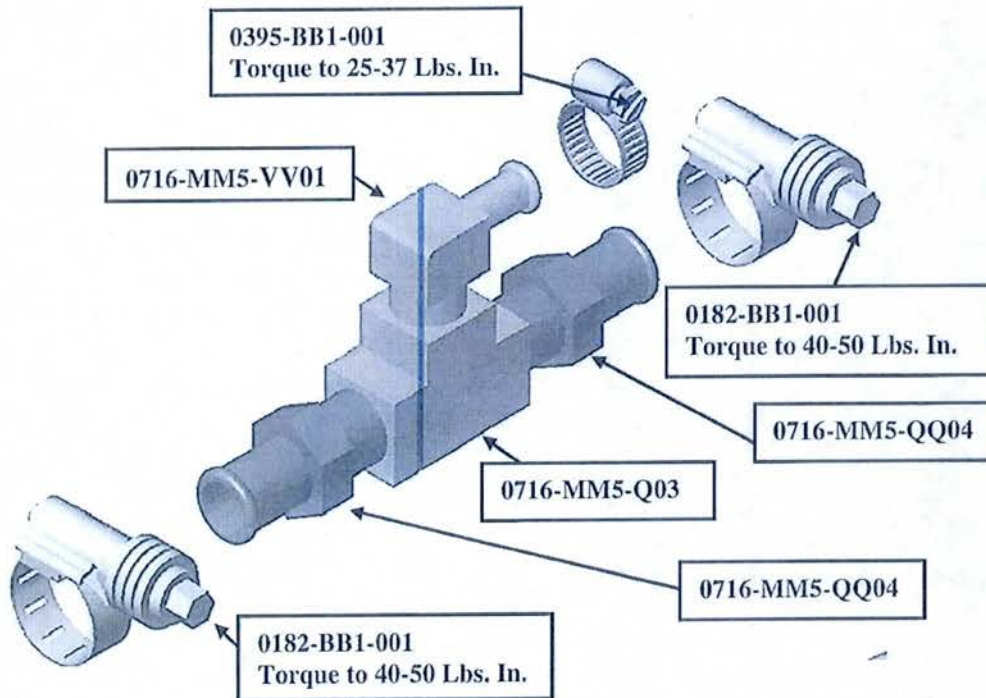

FIG. 3-1
- Assemble the brass T-fitting assembly. Tighten fittings 2-3 turns from finger tight. Refer to FIG. 3-1.
9. Tighten clamps and properly torque. Refer to FIG. 3-1.